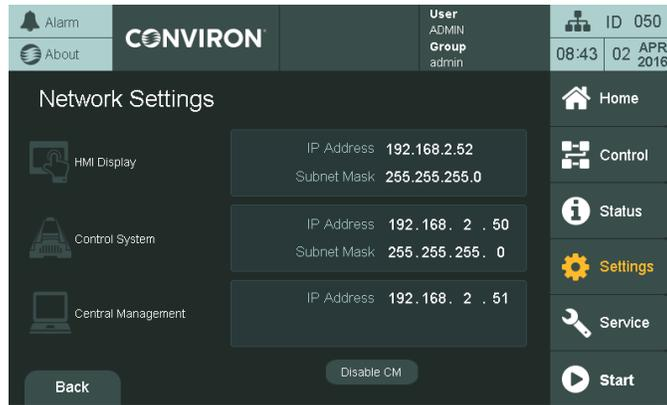

Figure 2-10 CMP6060 Network Configuration
1. On the control system screen, tap **ID**  in the top banner to access the network configuration (Figure 2-10).